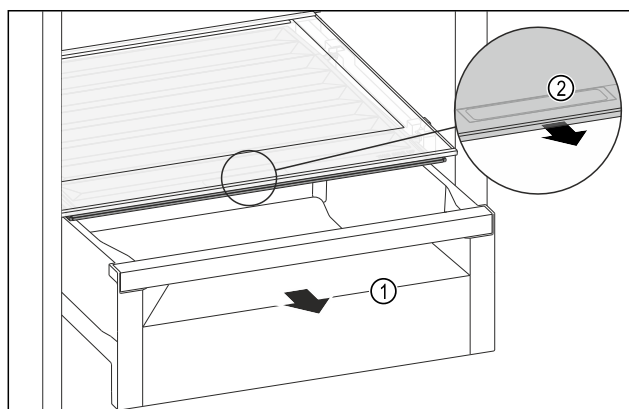

Fig. 137
- Pull out the drawer Fig. 137 (1).
- Grasp the recessed grip Fig. 137 (2) on the compartment lid and pull the compartment lid forwards at the same time.